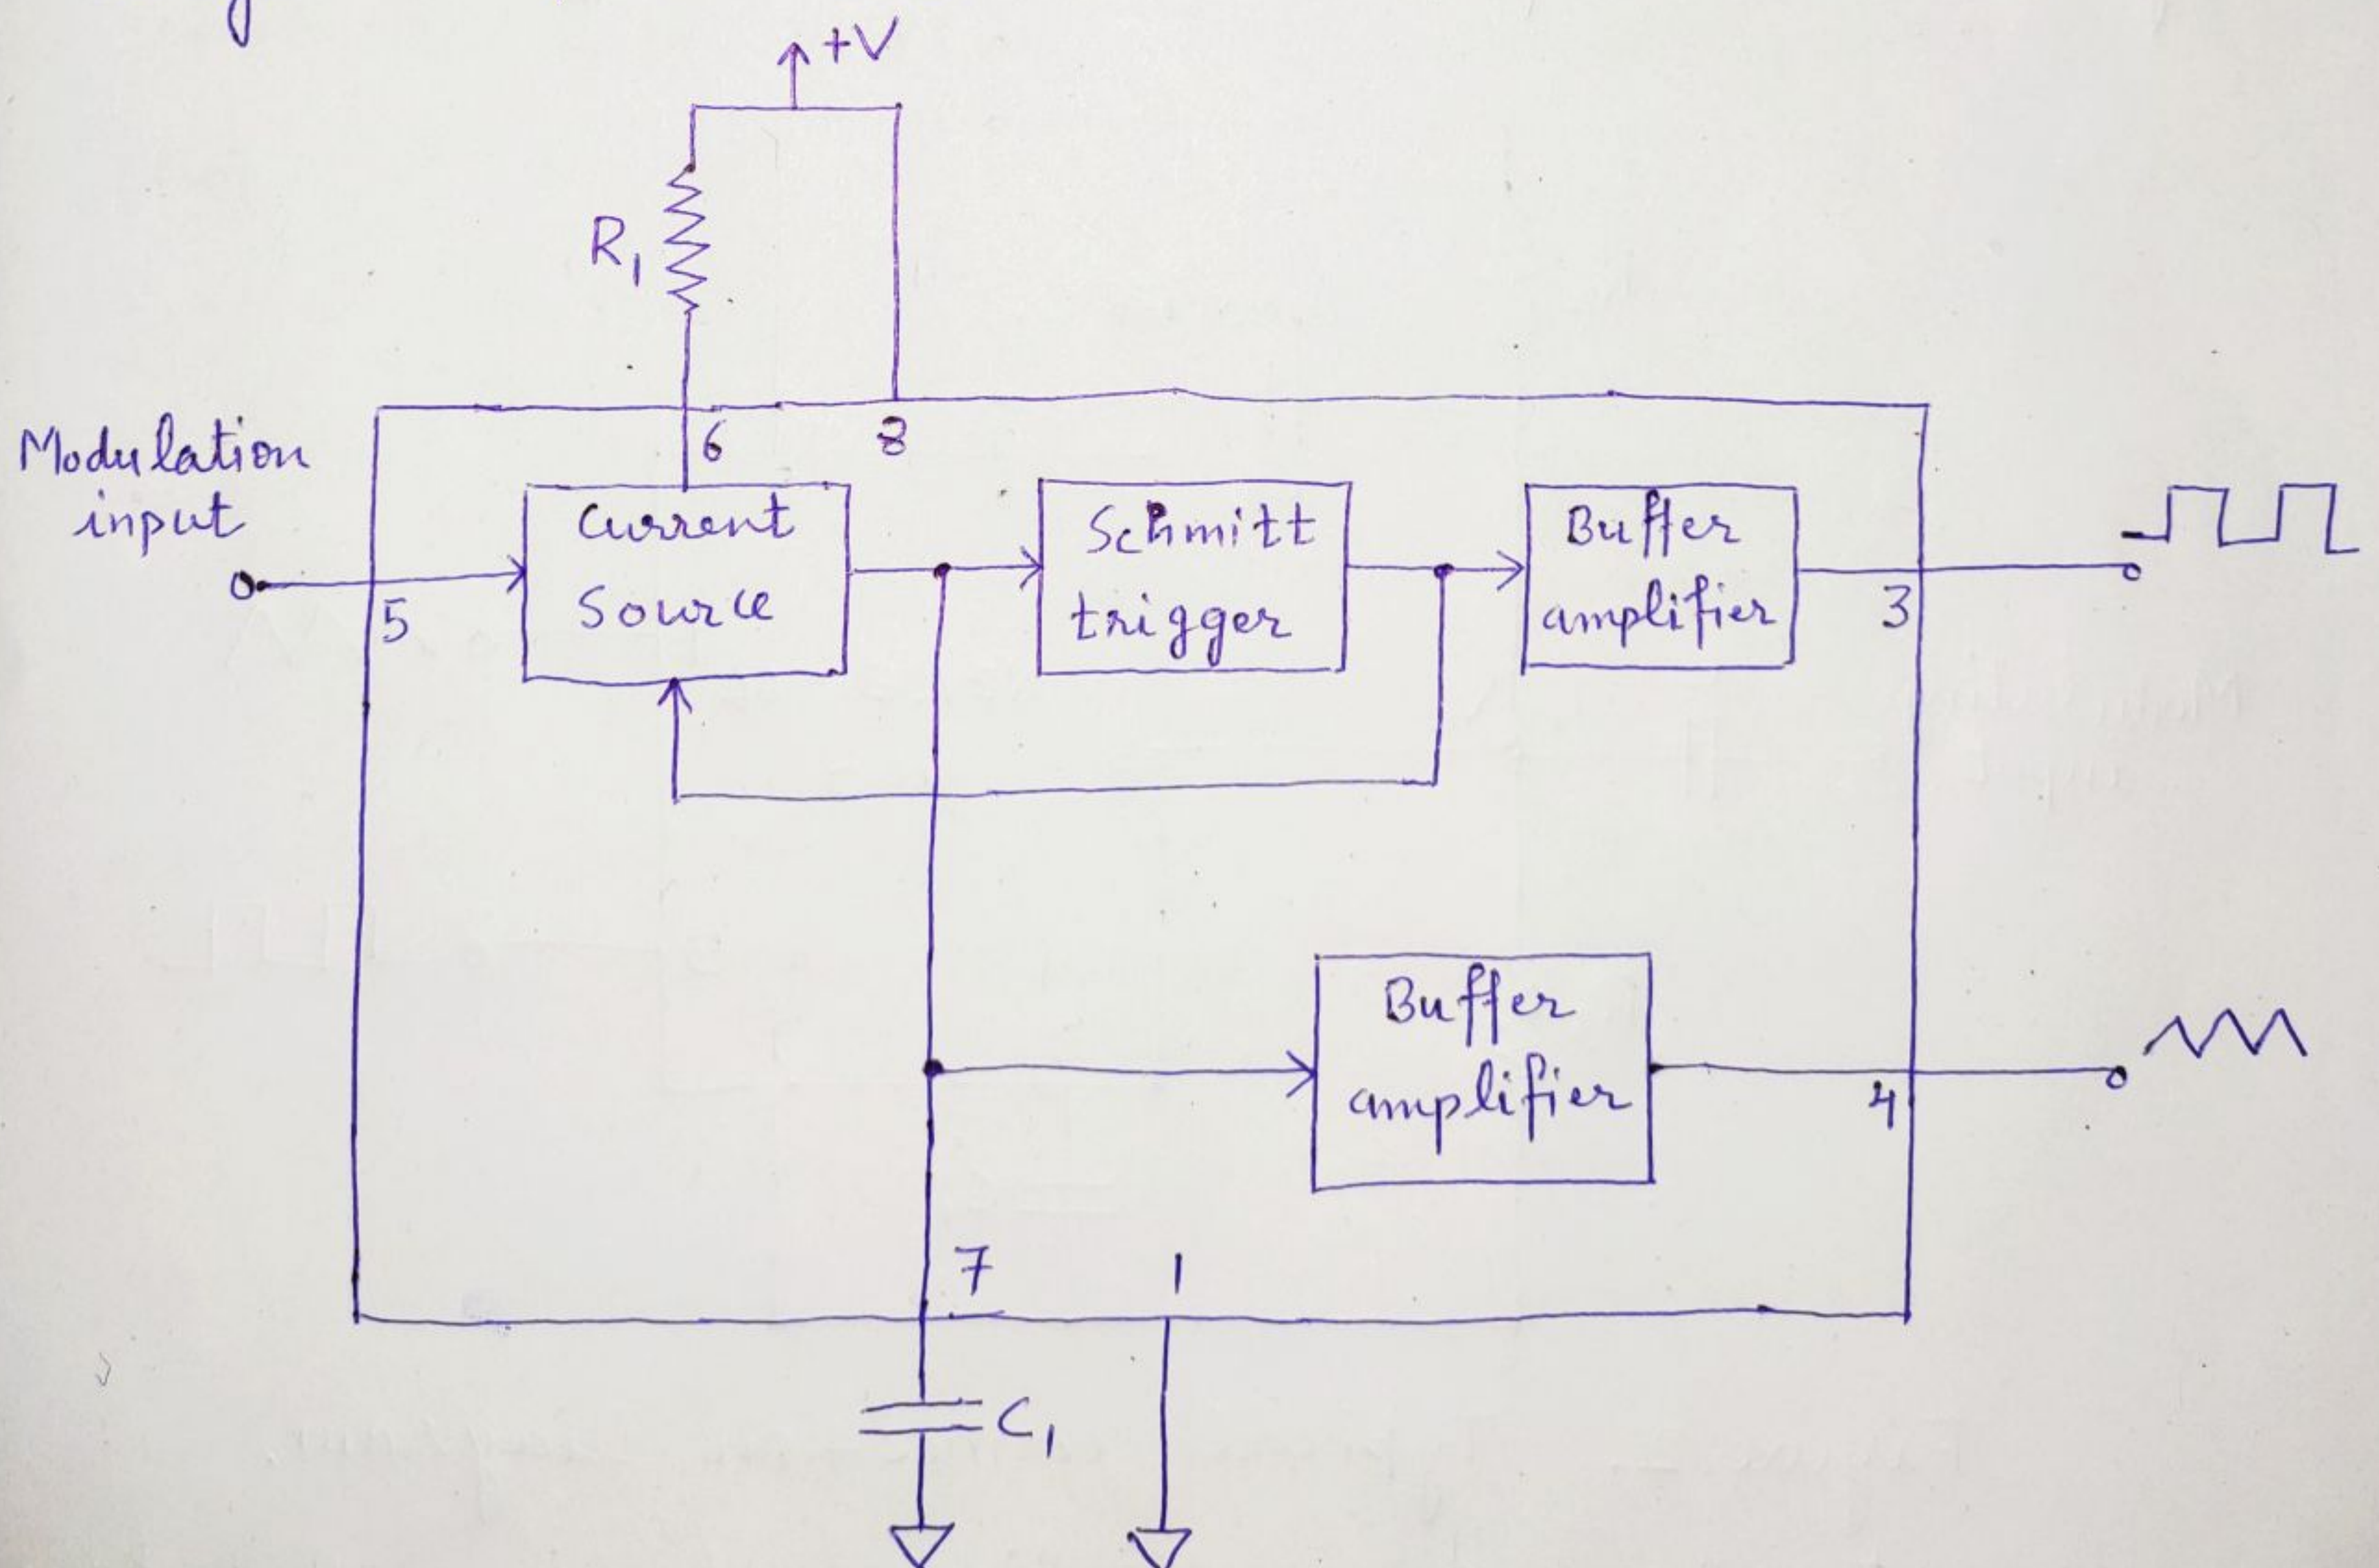

Figure 1. Block diagram of VCO 566.
①
In the preceding oscillators, the frequency is determined by the RC time constant. However, there are applications, such as frequency modulation (FM), tone generators, and frequency shift keying (FSK), where the frequency needs to be controlled by means of an input voltage called control voltage. This function is achieved in the voltage-controlled oscillator (VCO), also called a voltage-to-frequency converter. A typical example is the Signetics NE/SE 566 VCO, which provides simultaneous square wave and triangular wave outputs as a function of input voltage. Figure 1 is a block diagram of the 566.